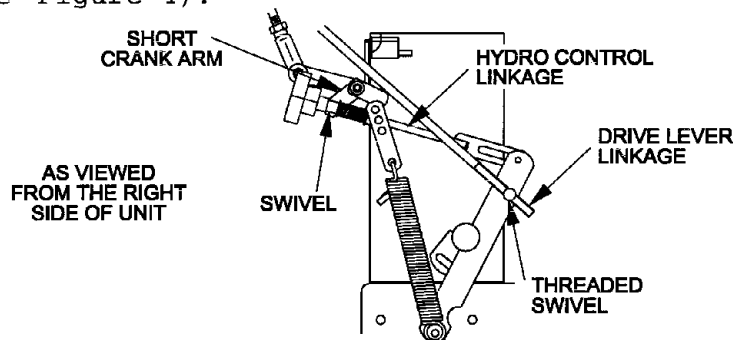
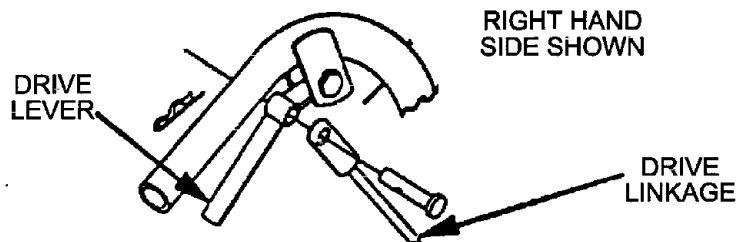

FIG. 4
FIG 5
- 3.12 Note the square swivel at the end of the hydro control arm linkage. Place the stud end of the swivel into the hole on the end of the short crank arm located at the end of the speed control crank (top, rear of fuel tank support). Install a 5/16" SAE washer and fasten with a 3/32" x 1/2" cotter pin from bolt bag. Repeat on opposite side of unit (See Figure 4).
- 3.15 Thread each drive linkage into the threaded swivel. (See Figure 4). Connect the upper end of each drive linkage to the drive levers. Fasten with a long clevis pin and hairpin cotter from bolt bag. Be sure the clevis pin is first inserted through the drive linkage and then through the drive lever from the outside before installing the hairpin cotter (See Figure 5).